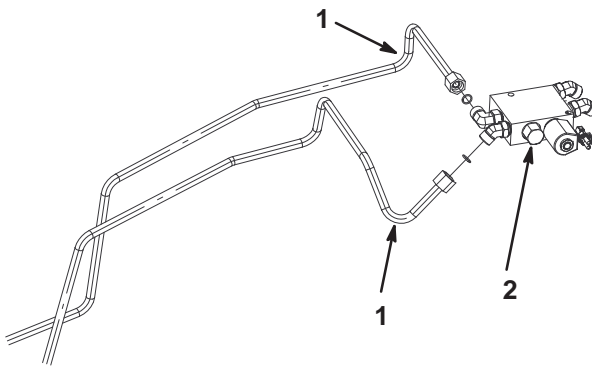

Figure 8
19. Connect the hydraulic tubes to the fittings on the front of the selector valve (Fig. 8).